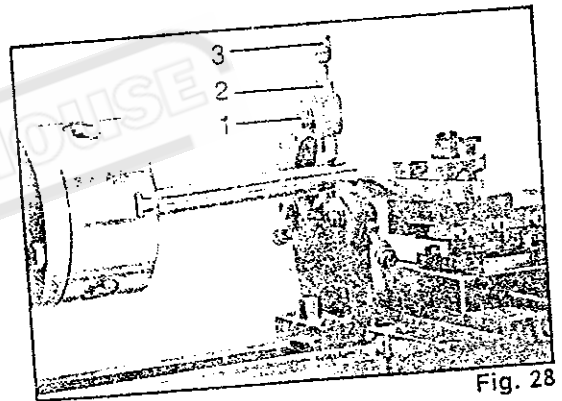

Fig. 28
1. Loosen three hex nuts (1, Fig. 28)
2. Loosen knurled screw (3, Fig. 28) and open the sliding fingers (2, Fig. 28) until the steady rest can be moved with its fingers around the workpiece. secure the steady rest in position
3. Tighten knurled screws so that fingers are snug but not tight against the workpiece. Tighten three nuts (1, Fig. 28). Lubricate the sliding points with machine oil.